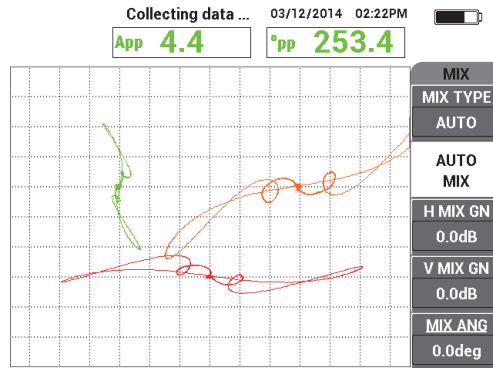

Figure 5-144 The support ring scan with AUTO MIX
9. Press the GAIN key (**dB**) four times, and then adjust the H/V GAIN 2 until the support ring's frequency 2 signal extends across approximately 10 horizontal divisions on the screen (see Figure 5-144 on page 228).
The NORTEC 600 records 5 seconds of the support ring's signal and automatically performs signal mixing (see Figure 5-144 on page 228).